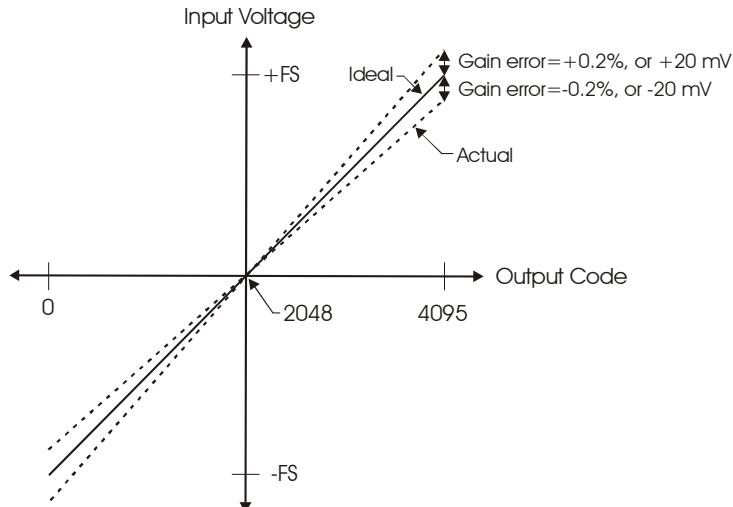

Figure 3-12. ADC Transfer function with gain error
Gain error is a change in the slope of the transfer function from the ideal, and is typically expressed as a percentage of full-scale. Figure 3-12 shows the PMD-1208FS transfer function with gain error. Gain error is easily converted to voltage by multiplying the full-scale (FS) input by the error.
**The accuracy plots in Figure 3-12 are drawn for clarity and are not drawn to scale.**